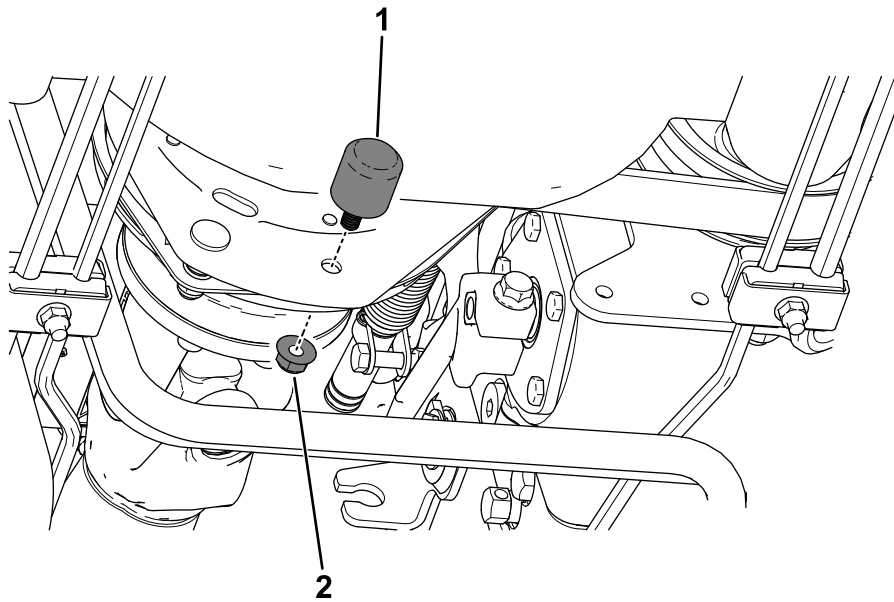

Figure 2
1. Use a nut to secure the bumper to the clutch (Figure 2).